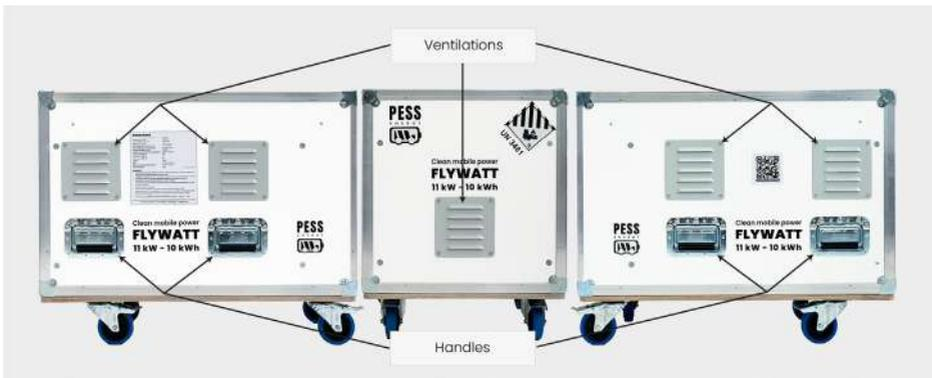

Figure 3 : Sides and back of the device
- Make sure that the air intakes (*see III.3. Figure 3*) of the device are not obstructed.
- Lifting is done only with the help of 4 people using the handles provided for this purpose (*see III.3. Figure 3*) or using a forklift when the machine is positioned on a pallet.